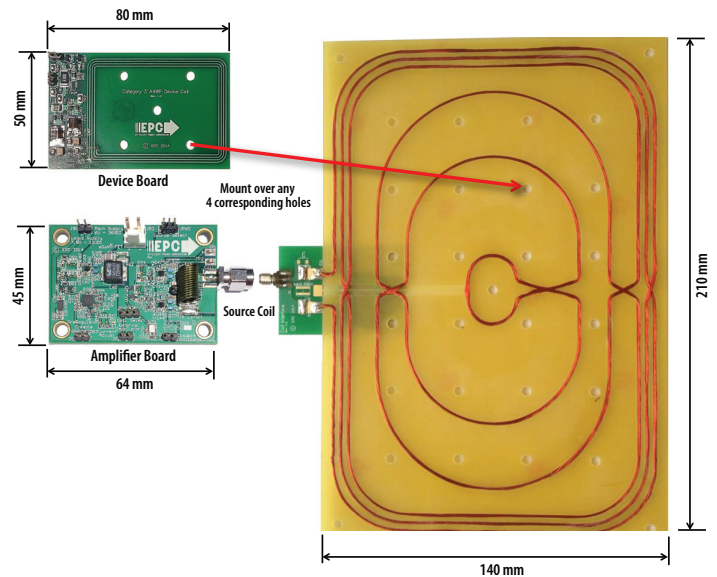
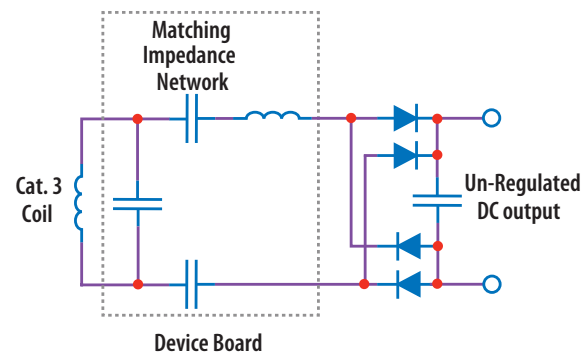
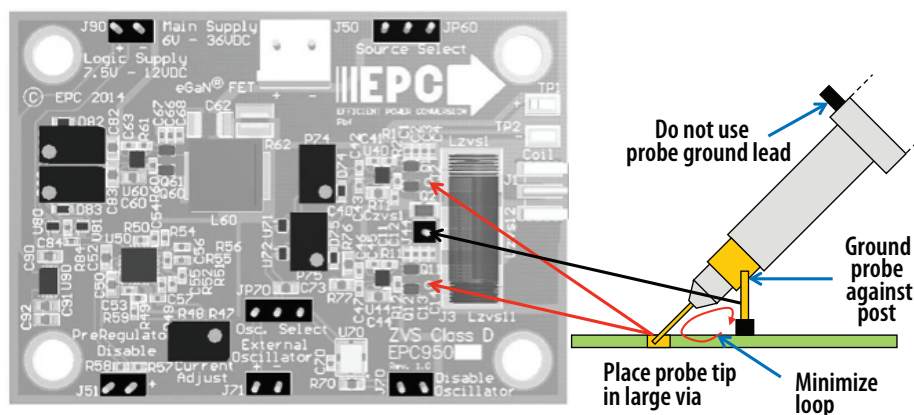

Figure 1: Mechanical Assembly of the EPC9111/ EPC9112 Wireless Energy Transfer Demonstration System
Figure 4: Basic Schematic of the A4WP Category 3 Device Board
Figure 8: Proper Measurement of the Switch Nodes Using the Hole and Ground Post
The EPC9111/ EPC9112 wireless power system comprises three boards (shown in figure 1) namely:
The assembly of the EPC9111 / EPC9112 Wireless Demonstration kit is simple and shown in Figure 1. The source coil and amplifier have been equipped with reverse polarity SMA connectors. The source coil is simply connected to the amplifier.
3. Connect a LOW capacitance oscilloscope probe to the probe-hole J2 and lean against the ground post as shown in Figure 8.
Figure 4 shows the basic schematic for the device coil which is category 3 A4WP compliant. The matching network includes both series and shunt tuning. The matching network series tuning is differential to allow balanced connection and voltage reduction for the capacitors. The coil can be configured to used either a half bridge rectifier (by adding a jumper to the coil at the bottom left of the board) or full bridge rectifier.
The EPC9111/ EPC9112 demonstration system is easy to set up and evaluate the performance of the eGaN FET in a wireless power transfer application. Refer to Figure 1 to assemble the system and Figures 4 through Figure 8 for proper connection and measurement setup before follow the testing procedures.
NOTE. When measuring the high frequency content switch-node (Source Coil Voltage), care must be taken to avoid long ground leads. An oscilloscope probe connection (preferred method) has been built into the board to simplify the measurement of the Source Coil Voltage (J2 and J3 as shown in Figure 8).